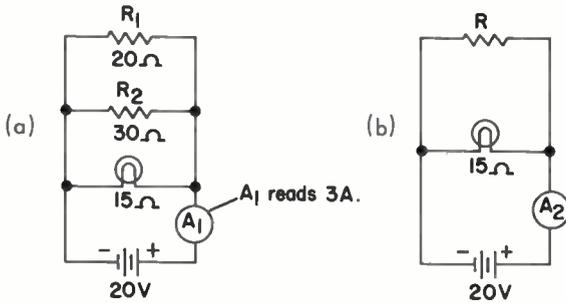

Fig. 34
7. Figure 34(b) shows an equivalent circuit of Fig. 34(a). What's the value of R in the equivalent circuit?
- (1) 20 Ω
- (2) 15 Ω
- (3) 12 Ω
- (4) 10 Ω
- (5) 7 Ω
- 34 8. If A_1 in Fig. 34(a) has a reading of 3 A, what is the reading of A_2 in Fig. 34(b)?
(1) 5 A (2) 3 A (3) 2 A (4) 1.5 A (5) 1 A